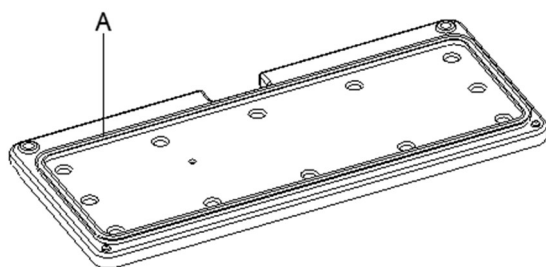

Figure 33
13. Clean the rubber gasket (A, Figure 33) of the cover and check it for integrity and efficiency. If necessary, replace it.